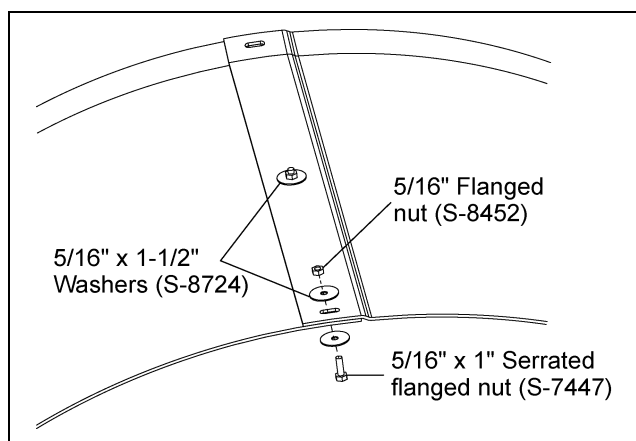

Figure 3C
1. Assemble the four (4) cone panels using the hardware provided (use cone/guard hardware kit). (See Figure 3C.) Overlap the cone panels and line up the slots on the flanges. Bolt together outside portion of cone using one 5/16" x 1" SS flange bolt, one 5/16" SS flange nut and two (2) 5/16" x 1-1/2" fender washers per hole. Only install hardware in outside two (2) rows of holes. Use washers on both sides to prevent cracking fiberglass panels.